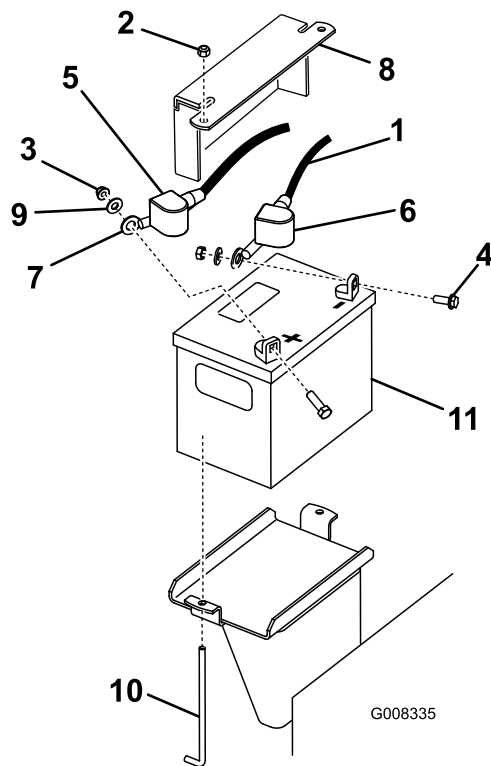

Figure 43
3. Lift the black rubber cover on the negative cable. Disconnect the negative battery cable from the negative (-) battery terminal (Figure 43).
- Slide the red terminal boot off the positive (red) battery terminal. Then remove the positive (red) battery cable (Figure 43).
- Remove the hold down plate, j-bolts, and locknuts securing the battery (Figure 43) and remove the battery.
- Place the battery onto the machine (Figure 43).
- First, install the positive (red) battery cable to positive (+) battery terminal with a nut, washer and bolt (Figure 43). Slide the rubber cover over the post.
- Then install the negative battery cable and ground wire to the negative (-) battery terminal with a nut, washer and bolt (Figure 43). Slide the rubber cover over the post.